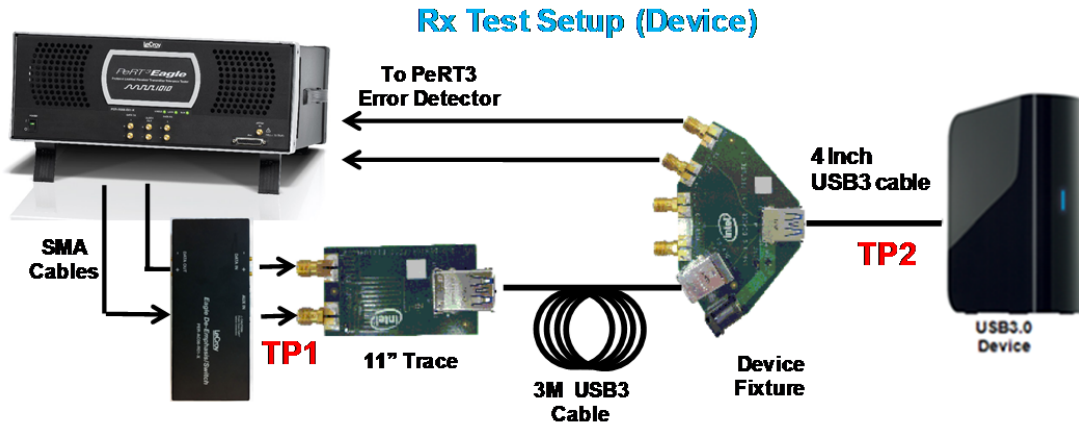

Figure 16
- Connect the test equipment as illustrated in Figure 16 for Device testing